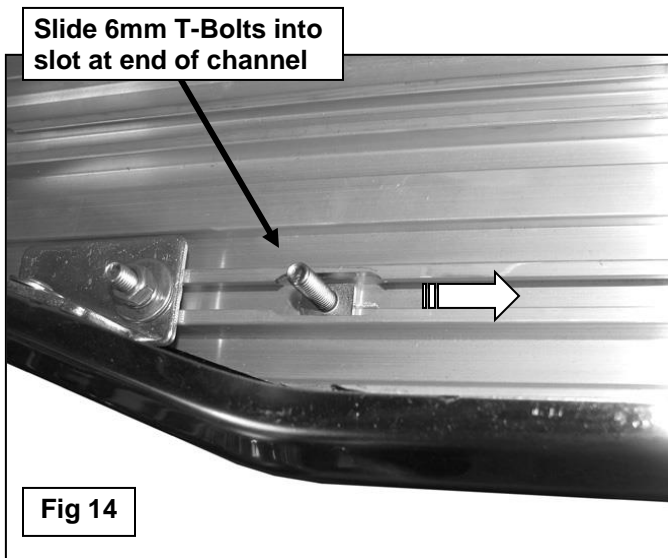

Fig 14
10. Select the driver/left side Running Board. Locate the openings cut at the end of the slots on the bottom of the Running Board, **(Figure 14)**. Insert (3) 6mm T-Bolts into each channel through the openings. Slide the T-Bolts into the approximate position in line with the (3) Brackets on the vehicle.